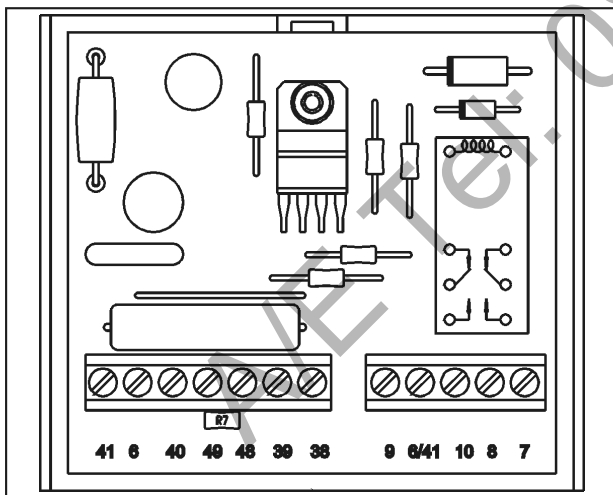

Fig 2.4 - Over-temperature Control Unit
2.8 Over-temperature Control Unit. (Fig 2.4)